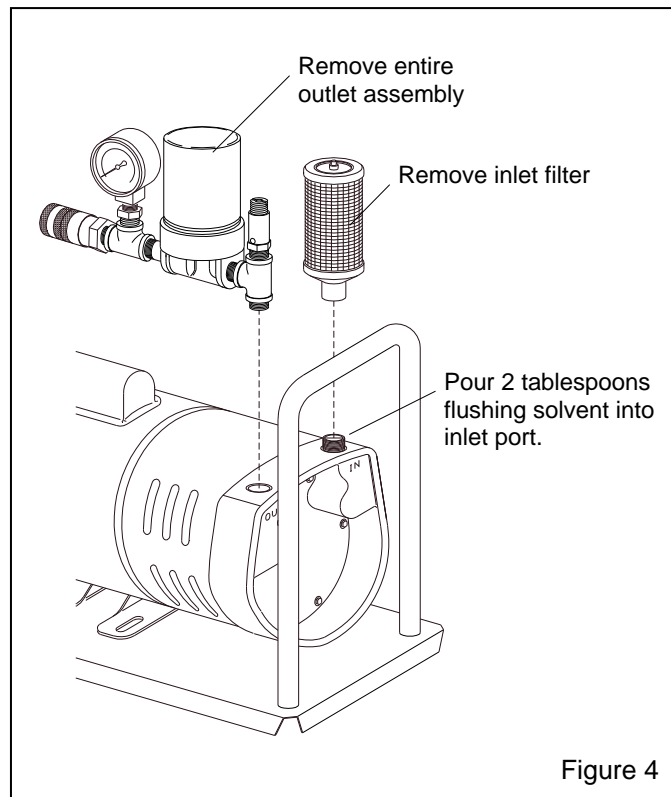

Figure 4
5.3 Flushing, Ref. Figure 4
5.3.3 To prevent the flushing solvent from entering the outlet filter and breathing air channel, remove the entire outlet plumbing assembly, as shown in Figure 4. Rotating the assembly away from the motor may be required to remove as an assembly, or, remove in section as needed